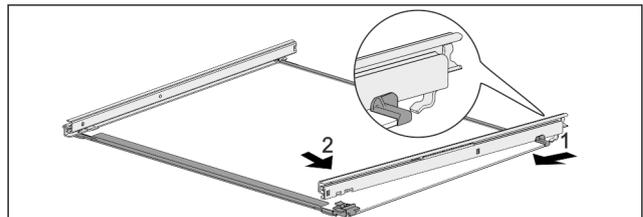

Fig. 45 Glass shelf with rails
- ▶ Hook in rail at the back. Fig. 45 (1)
- ▶ Hook in rail at the front. Fig. 45 (2)